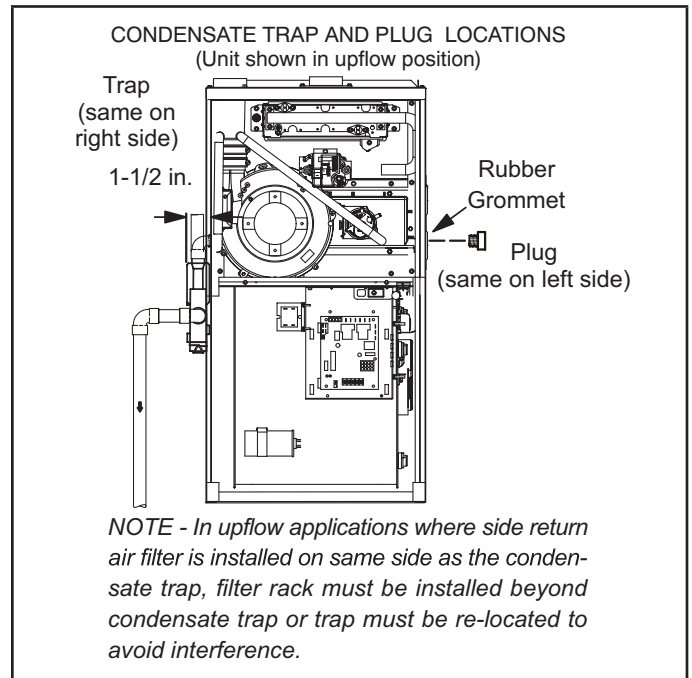
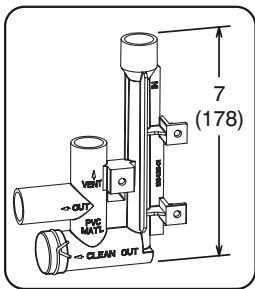

FIGURE 43
FIGURE 51
This unit is designed for either right- or left-side exit of condensate piping in upflow applications. In horizontal applications, the condensate trap must extend below the unit. An 8" service clearance is required for the condensate trap. Refer to FIGURE 43 for condensate trap locations. FIGURE 51 shows trap assembly
- 3 - Install the cap over the clean out opening at the base of the trap. Secure with clamp. See FIGURE 51.